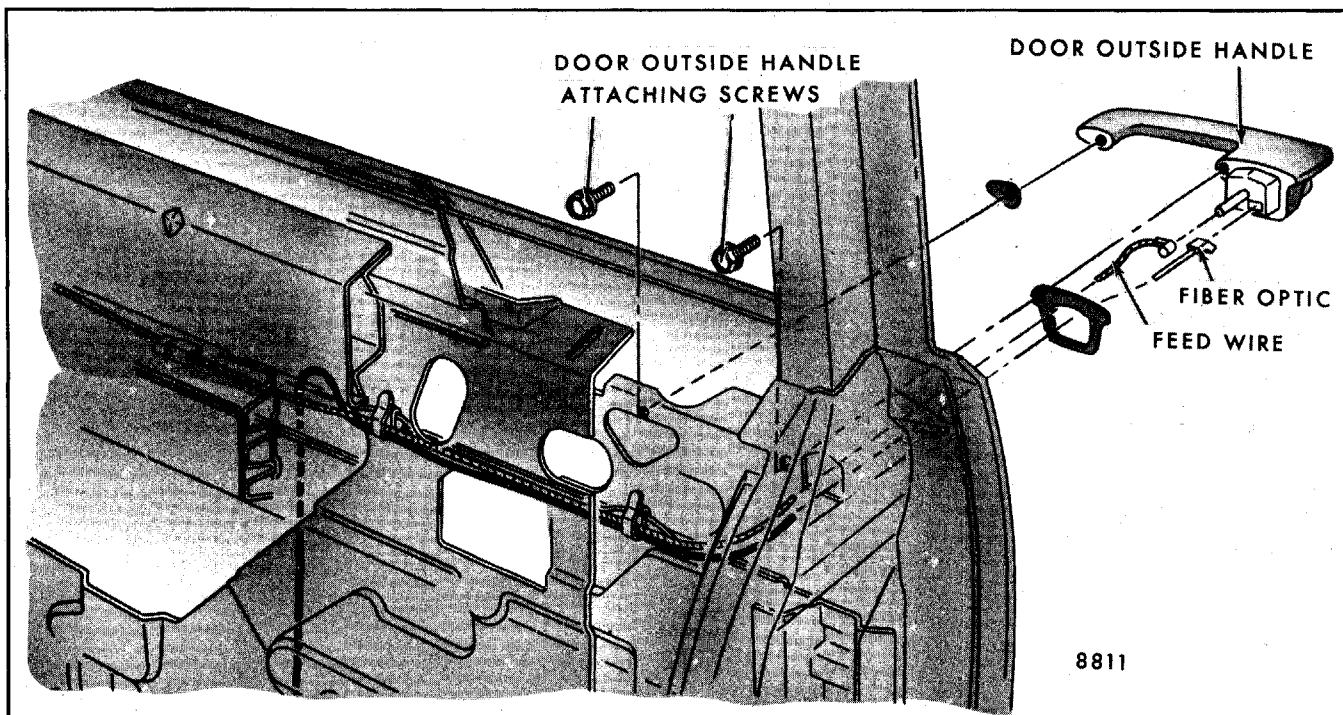

Fig. 5-44-Illuminated Lock Cylinder - "B, C and K" Styles (Push-Button Handle Shown)
- b. On styles with optional illuminated lock cylinder, disconnect fiber optic wire harness at door guard beam prior to removal of the handle (Fig. 5-44).